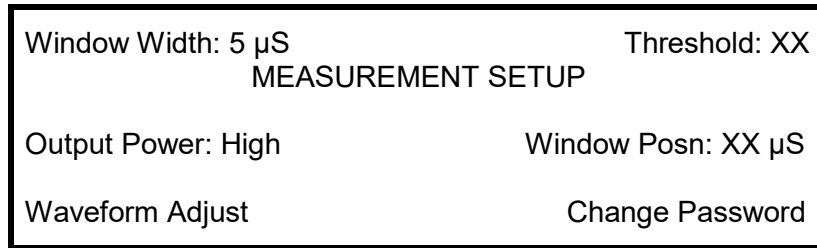

Figure 3-8: Measurement Setup Menu
2. The "Measurement Setup" menu. These are parameters that intimately affect the measurement and must be set before samples are taken. See Figure 3-8. If any of these are changed after samples have been taken, the measurement environment is different enough that the previous samples are no longer valid. Most of the default values work just fine for most cases, but adjustments may have to be made for particular applications. The default password is 0000.